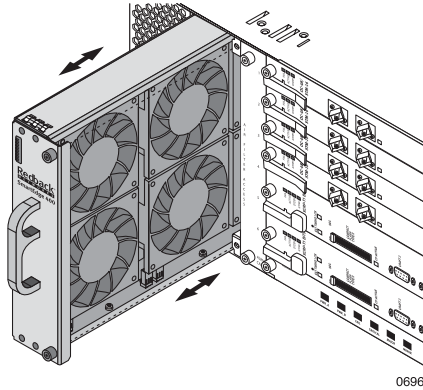

Figure 32 Replacing the Fan Tray
2. Remove the fan tray; see Figure 32